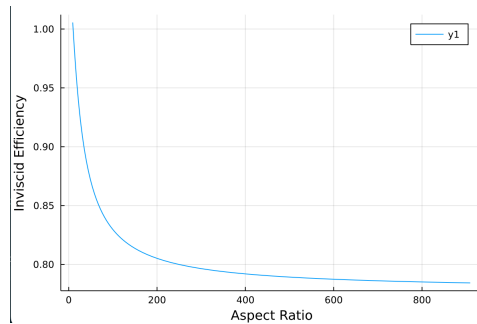
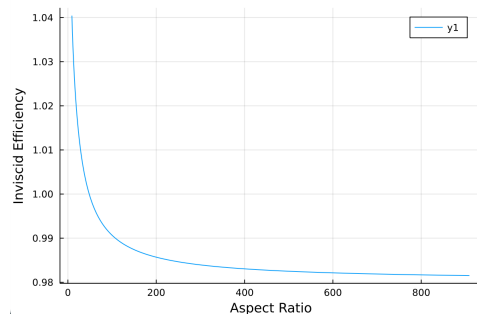

Figure 5: Hershey Bar Wing Efficiency vs Aspect Ratio
Figure 7: Non Hershey Dihedral Wing Efficiency vs Aspect Ratio
- Figures 5,6, and 8 all used hershey bar wings in them. With hershey bar wings, the efficiency can never be higher than one; however, for a non-hershey bar wing like figure 7, it is shown that the efficiency can actually be higher than 1: which explains why most wings are not designed like a rectangle. These non-hershey bar wings can produce a noticeably less amount of drag with respect to lift, which is extremely desirable in aircraft design. Another takeaway from these graphs is that as aspect ratio increases, which was created by increasing the span of the wing, the efficiency decreases in a rational manner.